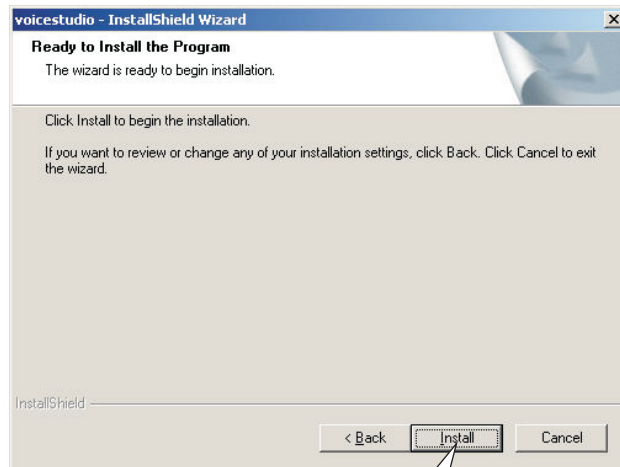

Figure 18
- Click the Install button to install the program into your PC, as shown in figure 18: